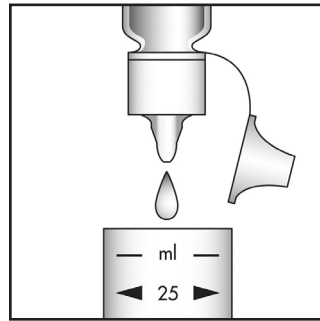

Figure 1
1. Add 5 drops of S-2500 Activator Solution to the empty sample cup (fig. 1).